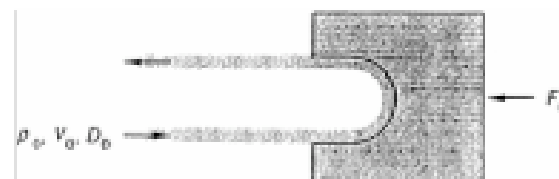

Fig. P3.41
3.41 In Fig. P3.41 the vane turns the water jet completely around. Find the maximum jet velocity V_o for a force F_o .